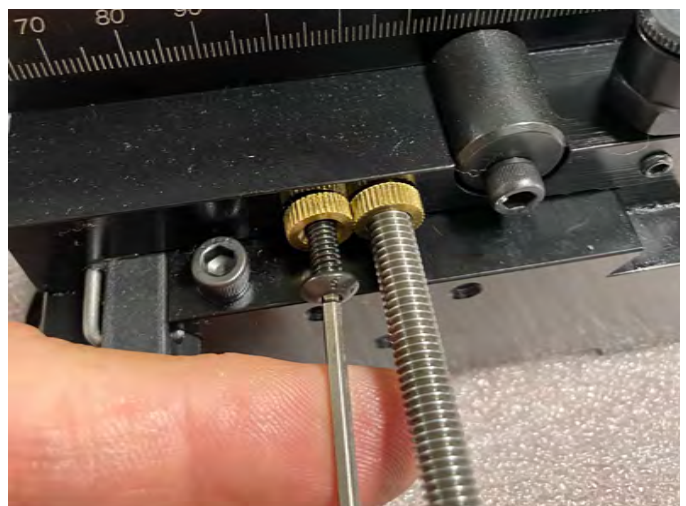

FIGURE 11—Thread the 8-32 screw into the locking collar.
- L. With the locking collar and the nut knurls aligned, insert the 8-32 screw into the locking collar (see Figure 11).